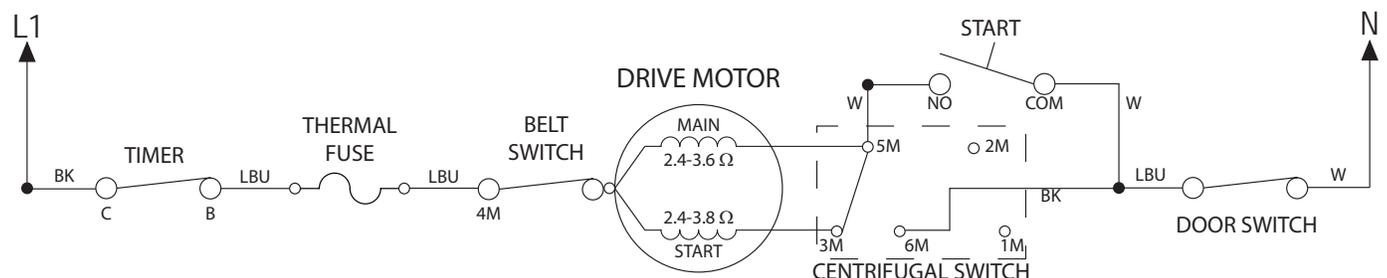

Figure 1 - Motor Strip Circuit
4. Check the wiring and components in the motor circuit by referring to the appropriate wiring diagram on pages 4-4 to 4-7 or the Motor Strip Circuit below (see Figure 1).